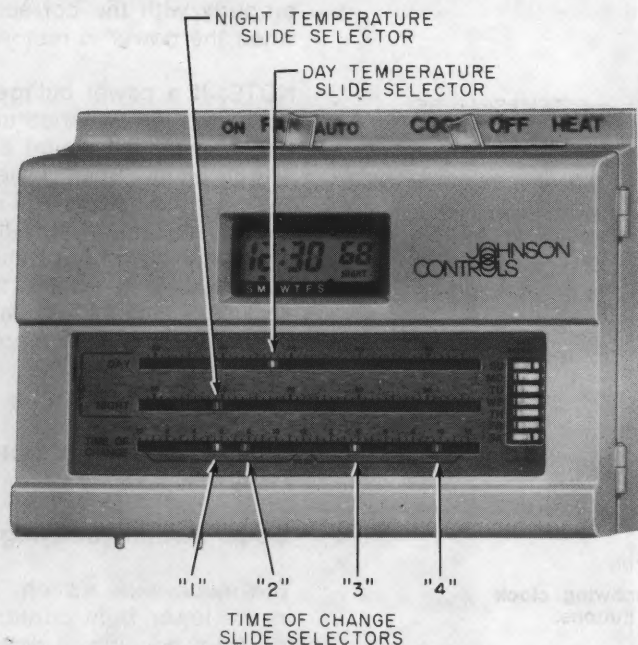

Fig. 8 — Front view of thermostat showing slide selectors.
Temperature Slide Selectors (See Fig. 8.) Day Selector
Time of Change Slide Selectors (See Fig. 8.)
9. Set the "Fan" and "System" switches to desired positions. (See Fig. 8.)